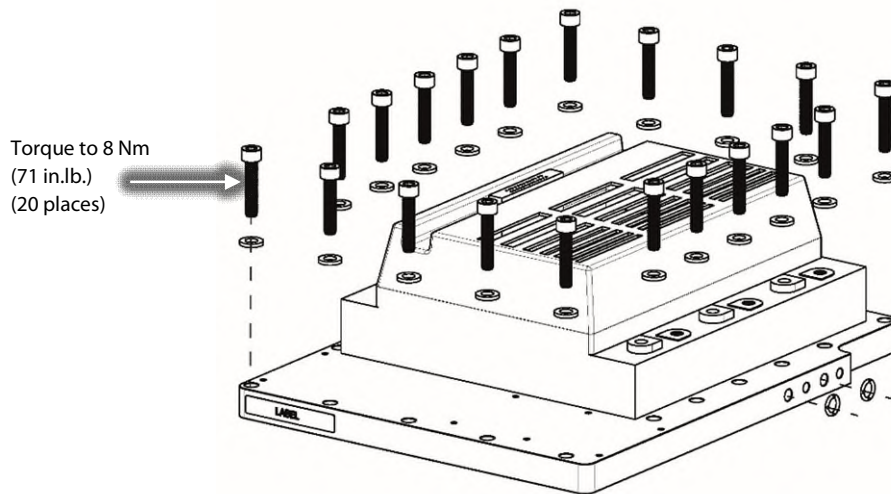

Figure 20 – Inverter Removal
35. Remove the fasteners that secure the Inverter to the compressor main housing. Refer to Figure 20 (Inverter Removal).
36. Carefully, remove the Inverter and discard the two (2) O-rings underneath. (Note that the SCR cooling manifold will be attached to the Inverter cooling plate.)
37. Carefully remove the SCR cooling manifold foam insulation in order to gain access to the two (2) screws shown in Figure 20 (SCR Cooling Manifold). Retain for use with the new Inverter assembly.